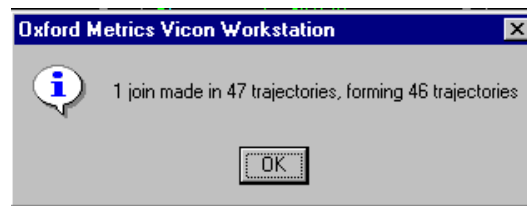

Figure 9: Defragment Trajectories
- 3) Now, select **<Edit>/<Defragment Trajectories>**. A window will pop up with a message. If you get the correct number of trajectories, as in 41 for HumanRT.kmt. The message will read "x joins made out of y trajectories forming 41 trajectories". Otherwise you will get a message like this: "x joins made in y trajectories forming z trajectories" where z is a number greater than 41 (*Figure 9*). In the next step, you will have to look at the unlabeled trajectories. If you get the correct number, proceed to Step (7).